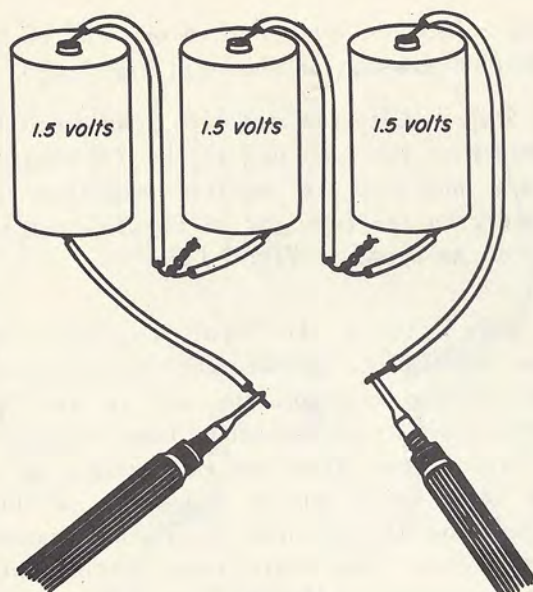

Fig. 7-11
Step 1. Connect the remaining 1.5-volt cell in series aiding with the two cells already connected together, as shown in Fig. 7-11.
Step 2. Measure the voltage of the three cells in series, as shown in Fig. 7-11. At 1.5 volts a cell, the voltage reading should be three times 1.5 volts, or about 4.5 volts. It may be as high as 5.1 volts, or it may be as low as 4.2 volts, depending upon the condition of the cells. By connecting these three cells in series, you have made a 4.5-volt battery.